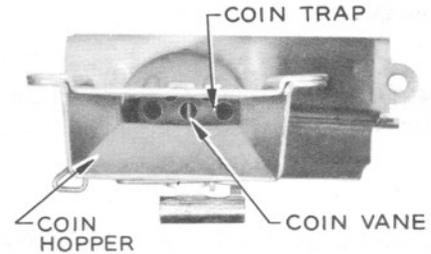

Fig. 10 — Position of Vane When Relay is Centered
4.13 When mounting relay, it shall be centered so that with operating arm in its normal vertical position fork slot engages vane stem and holds coin vane in a vertical position. Full thickness of coin vane shall be visible in the center hole of coin trap, as shown in Fig. 10. If relay cannot be centered, replace relay. If replacing relay cannot be centered, replace coin collector.